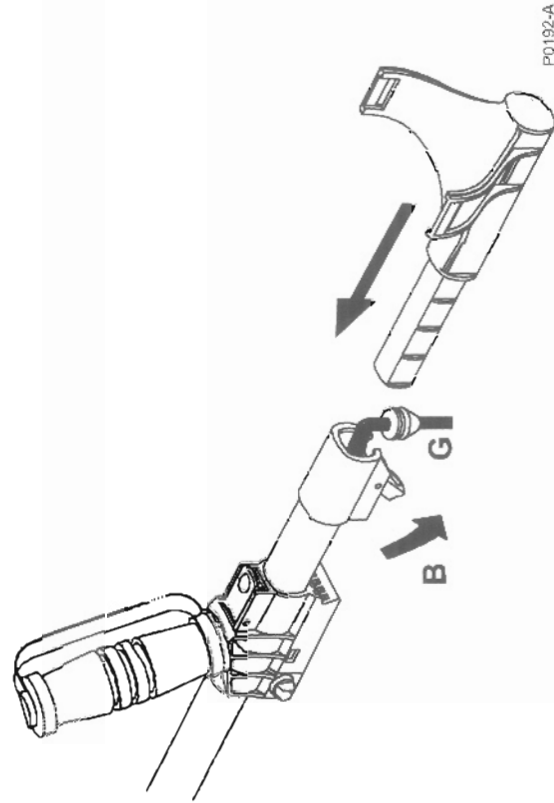

Figure 3 - The Golden Hawk Shaft Assembly
4.1 Shaft Assembly (see Figure 3)
- Release the locking lever (A) on the bottom end of the Upper Shaft, position the small end of the Lower Shaft inside the Upper Shaft and clamp these components together using the locking lever (A).
- Before attaching the Armrest, decide how the Control Box is to be positioned (see the diagrams in section 4.3 for more details on the correct positioning of the coil cable). Release the locking lever (B) at the top end of the Upper Shaft (the locking lever is part of an assembly known as a 'camlock'). Position the selected grommet (G) on the coil cable through the keyway in the upper locking lever, place the end of the armrest inside the Upper Shaft and clamp these two components together with the locking lever.